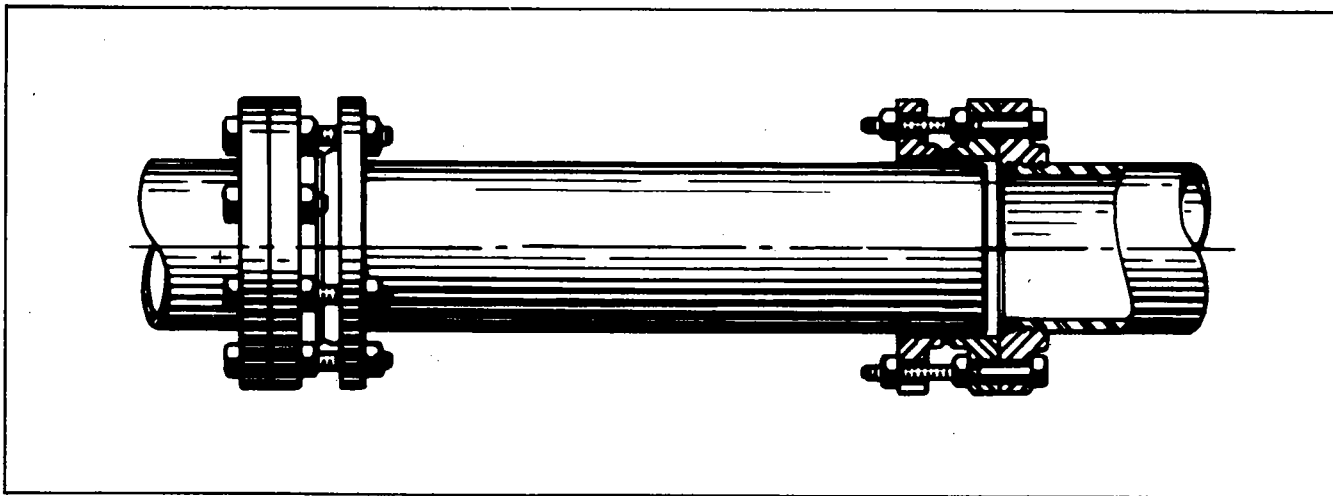

Figure 3—Flexible Pipe Connection
4. In the suction pipe line include a gate valve near the pump, and employ flexible pipe connections (see Fig. 3) for ease in making final connections and to prevent pipe strain due to settling of concrete.